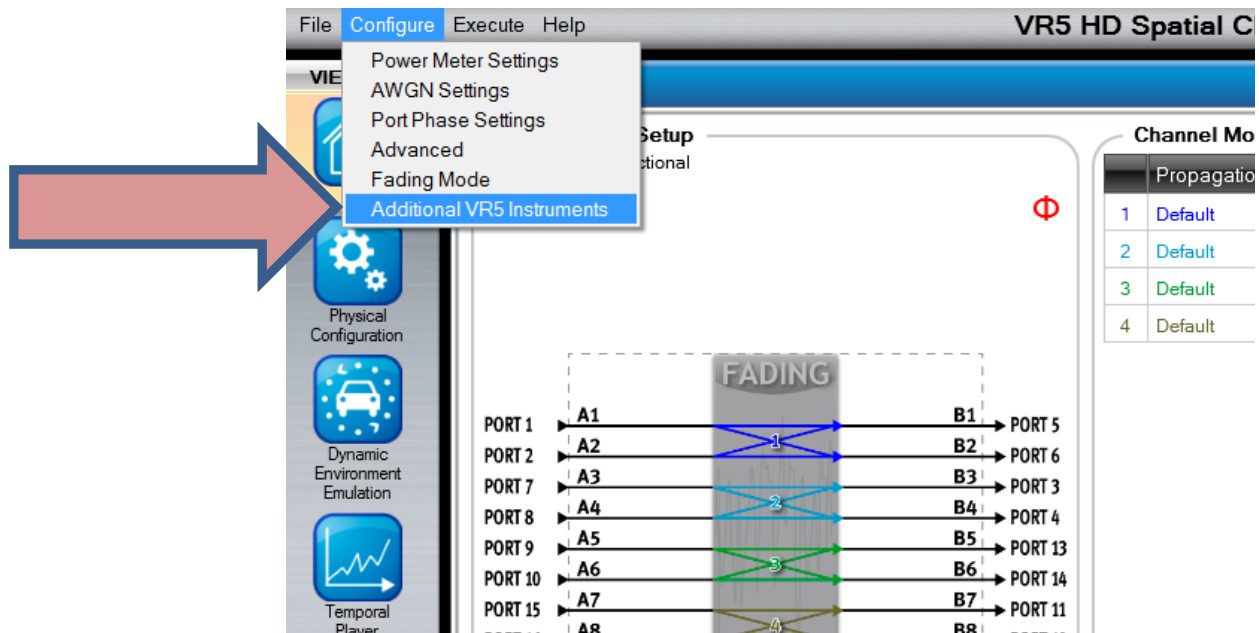

Figure 3-8: Configuring Additional VR5 Instruments
- To connect the secondary unit, select **Configure>Additional VR5 Instruments**, as shown in Figure 3-8.